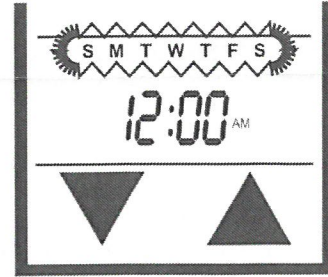

Fig. 8
- One of the days of the week will be flashing (above the clock). Select the correct day by pressing the **UP** and **DOWN** touch buttons, then press **SET**. Your time will automatically be accepted. (FIG. 8)